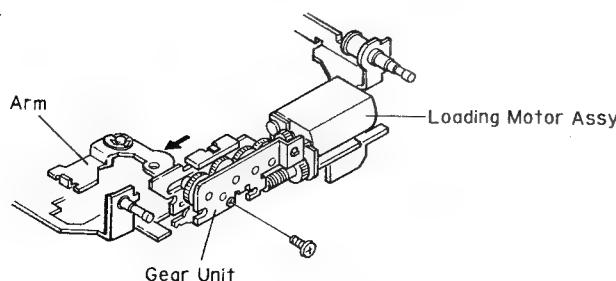

Fig.16
10. Turn the Loading gear to put into the ejection.(Fig.16)
11. Remove one of the screws and remove the gear unit pressing the arm slightly toward the arrow.(Fig.16)